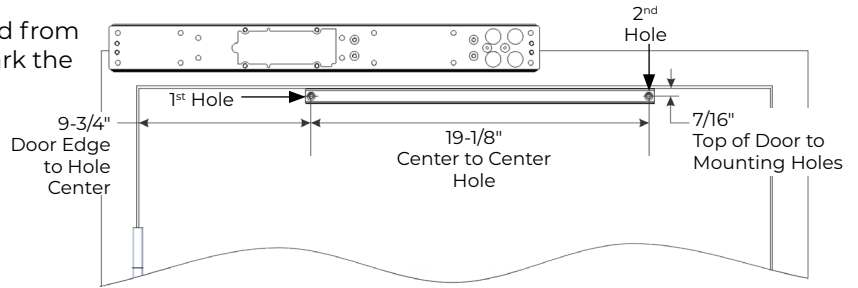

Figure 4
- Using the template (available for download from [www.nortonrixson.com](http://www.nortonrixson.com)), measure and mark the first track mounting hole. (Figure 4)